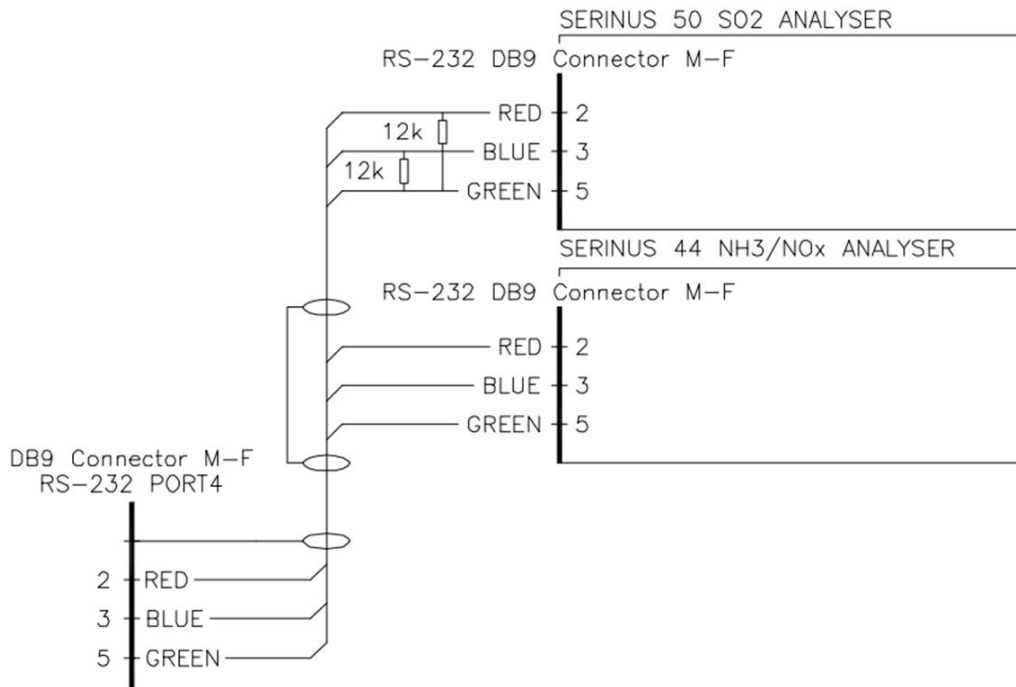

Figure 63 – Multidrop RS232 Cable Example
- A 12K ohm terminating resistor should be placed on the last connector of the cable (connect from pin 2 to pin 5 and from pin 3 to pin 5 – refer to Figure 63).